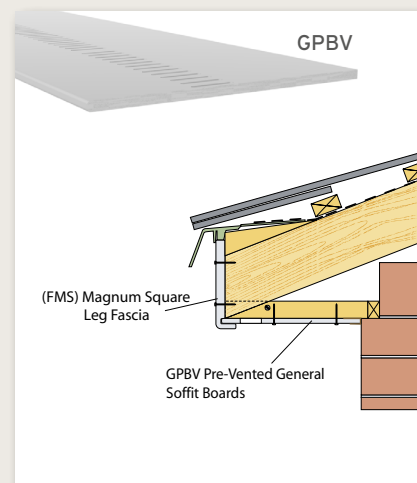

Fig. 20e. GPBV Pre-Vented General Purpose Board in conjunction with FMS Fascia.
The various combinations of fascia, soffit and ventilator that can be used for pitched or flat roof situations are shown in Figures 20e and 20f.
**Figure 20e** shows a typical GPBV 10mm Pre-Vented General Purpose Board, in conjunction with a Magnum Fascia.